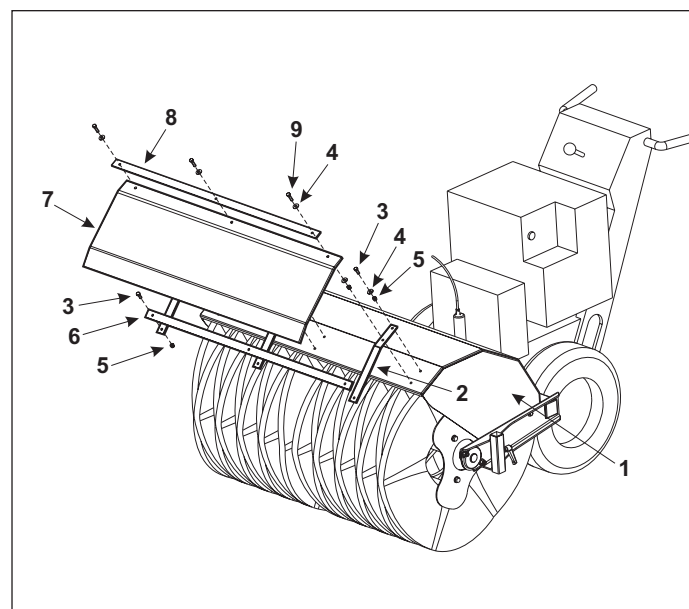

Figure 23. Deflector Kit Installation
- a. Position deflector straps (2, Figure 23) over broom hood (1) and secure each strap with one bolt (3) washer (4) and nut (5) in the top hole of the strap and broom hood.
- b. Attach strap support (6) to each deflector strap. Position the support strap at the lower edge of the deflector strap and secure with one bolt (3) and nut (5) in each support strap.